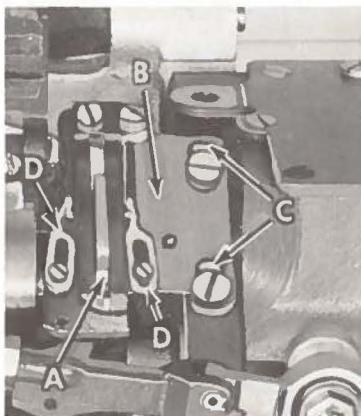

Fig. 14
The looper thread take-up (A, Fig. 14) is not spotted on the mainshaft and consequently, can be set to compensate for varying conditions. It is set correctly when the looper thread is just cast off the highest lobe of the take-up when the point of the left needle is clearly visible below the underside of the looper. The cast-off plate support (B) is adjustable and its setting determines the amount of thread pulled off by the take-up.
The 401 stitch looper thread eyelets (D, Fig. 14) are adjustable and can be positioned to reduce or put more looper thread into the 401 stitch system without changing the 602 thread setting.